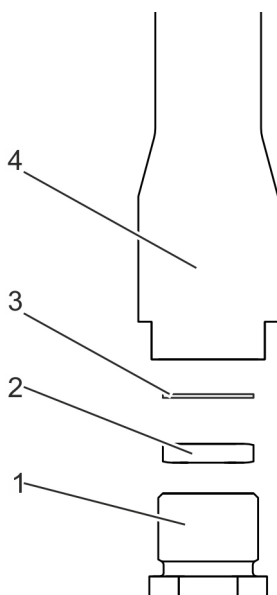

Fig. 14: Removing the pressure screw
9. → Remove the pressure screw (Fig. 14/1), pressure ring (Fig. 14/2) and the defective bursting disc (Fig. 14/3) from the valve body (Fig. 14/4).